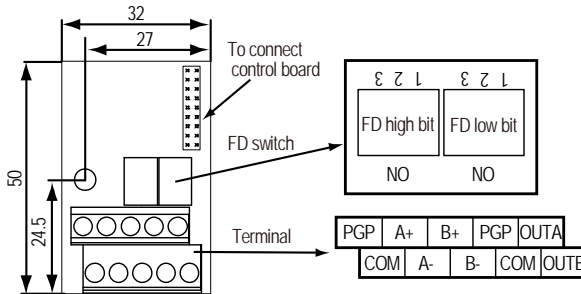

Figure 4-22 OC encoder interface board with frequency demultiplication output
The OC encoder interface board with frequency demultiplication (FD) output is shown as Figure 4-22. FD switch is shown as the section 4.6.2 FD Description and the size unit is mm.